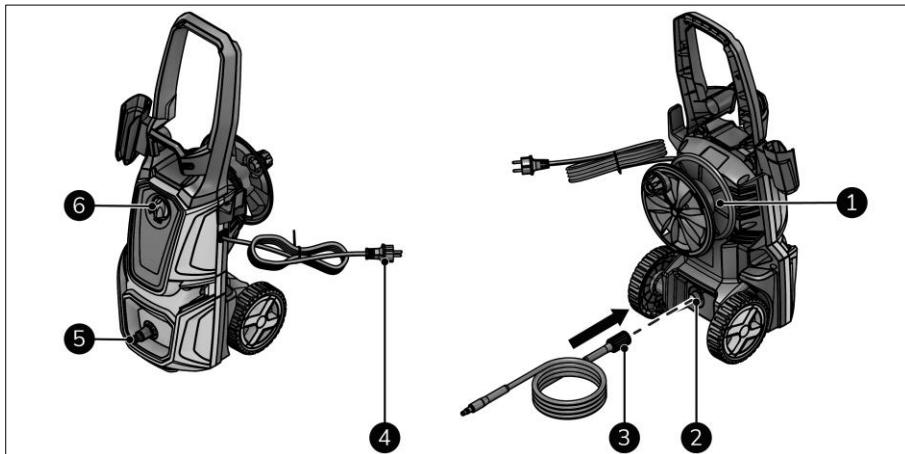

Figure 10
2. Make sure the ON(1)/OFF(0) switch is in the OFF(0) position (Figure 10, pos. 6).
3. Place the power plug (Figure 10, pos. 4) into a socket that is easily accessible.
4. For the first use only: remove the protective cap from the high-pressure water outlet (Figure 10, pos. 2).
5. Unroll the high-pressure water hose from the hose reel (Figure 10, pos. 1).
6. Screw the high-pressure hose (Figure 10, pos. 3) to the high-pressure water outlet.
7. Connect the water supply to the device (Figure 10, pos. 5).